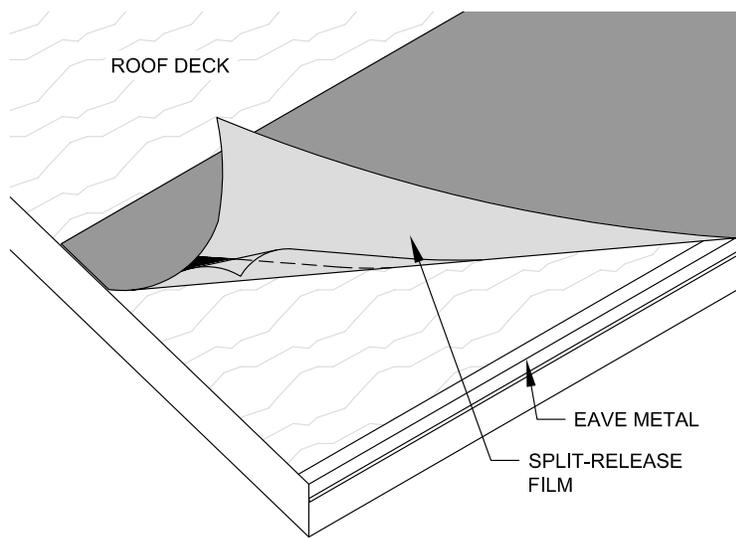

Figure 1 - One Side of the Split-Release Film Overlaps the Other for Easy Removal
**Composition and Materials:** Arctic Seal® is manufactured on a durable fiberglass mat with a Flexor™ SBS polymer modified asphalt top coating and surfaced with a sand release agent that resists wear and improves footing. The bottom coat is an aggressive, asphalt-based adhesive and protected with a factory-applied, split-release plastic film that is removed during installation. (See Figure 1)